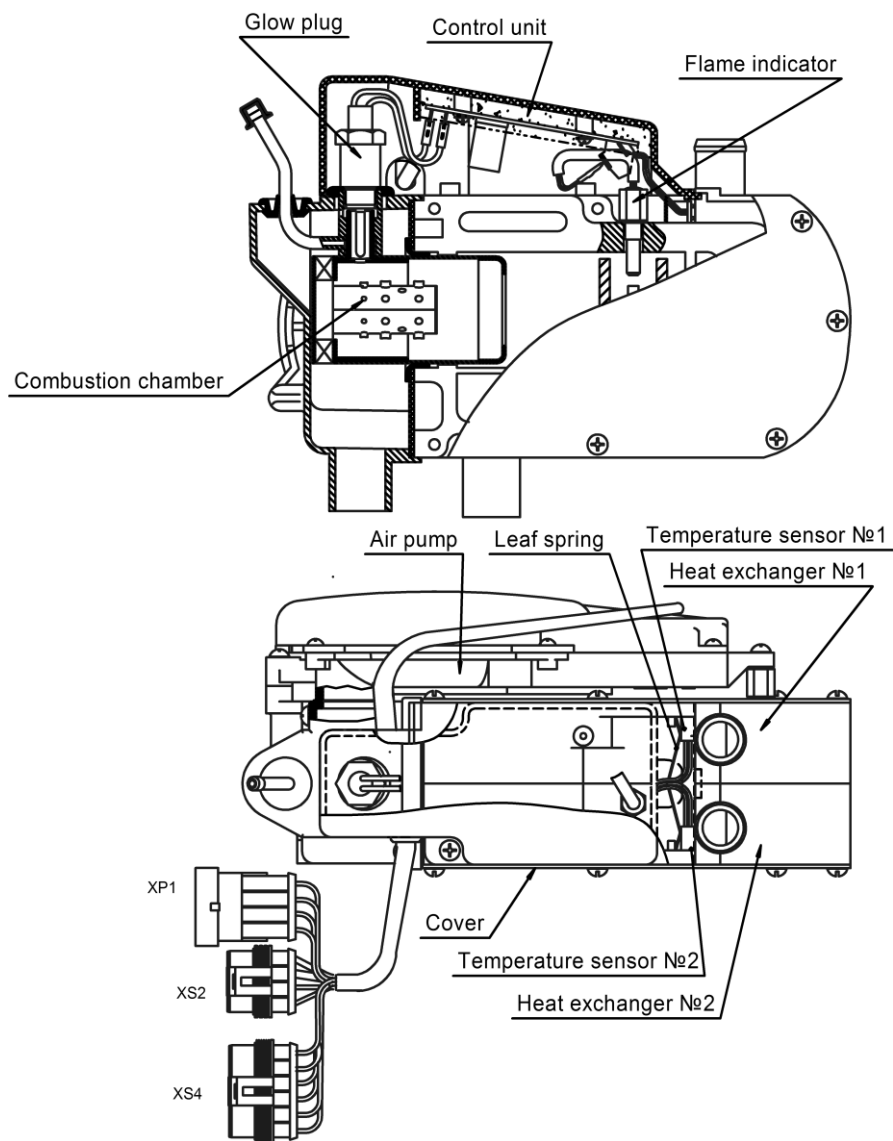

Figure 4.3 – Heater basic components
- heater (main components are given in figure 4.3);